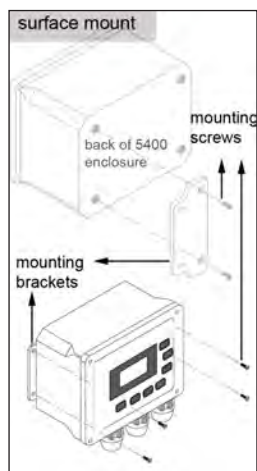

Figure 3.2
1. Fasten the mounting brackets to the back of the 5400 with the mounting screws - figure 3.2.
3. Fasten the 5400 mounting brackets to the mounting surface with the mounting screws provided - figure 3.2. Make sure screws adequately secure 5400 to surface.
2. Fasten the mounting brackets to the back of the 5400 with the mounting screws as shown in figure 3.2.
5. Fasten the mounting brackets to the back of the 5400 enclosure with the mounting screws - figure 3.2, page 28.